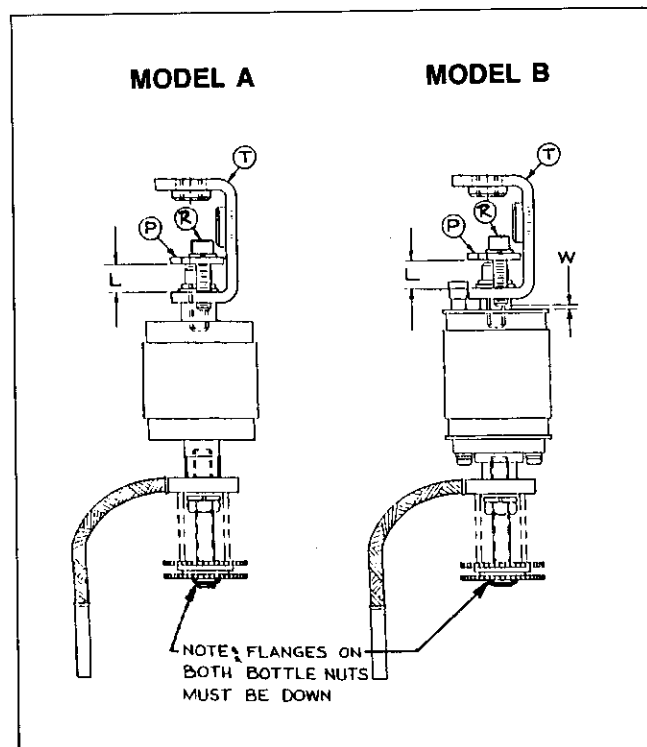

Fig. 7 Vacuum Bottles and Shunts
6. Pull the terminal (T) from the structure. The bottle nuts and spring will slide out from the crossbar, the shunt will withdraw from the window it occupies, and the bottle subassembly is then out of the contactor.
7. Remove bottle clamp (P) and the two loose screws (R).
8. Replacement bottle subassemblies may look like either view in Fig. 7. Either style can be used, but all subassemblies on any one contactor must be identical. Although some **bottles** have metric threads there is no problem, since all hardware to mount the **bottle subassemblies** is English/American.
9. Adjust screws (R) in each bottle subassembly so that the dimension L (Fig. 7) between terminal (T) and bottle clamp (P) is greater than 0.7 inch. At the other end of the subassembly, run the bottle nuts to the extreme end of the bottle stud.